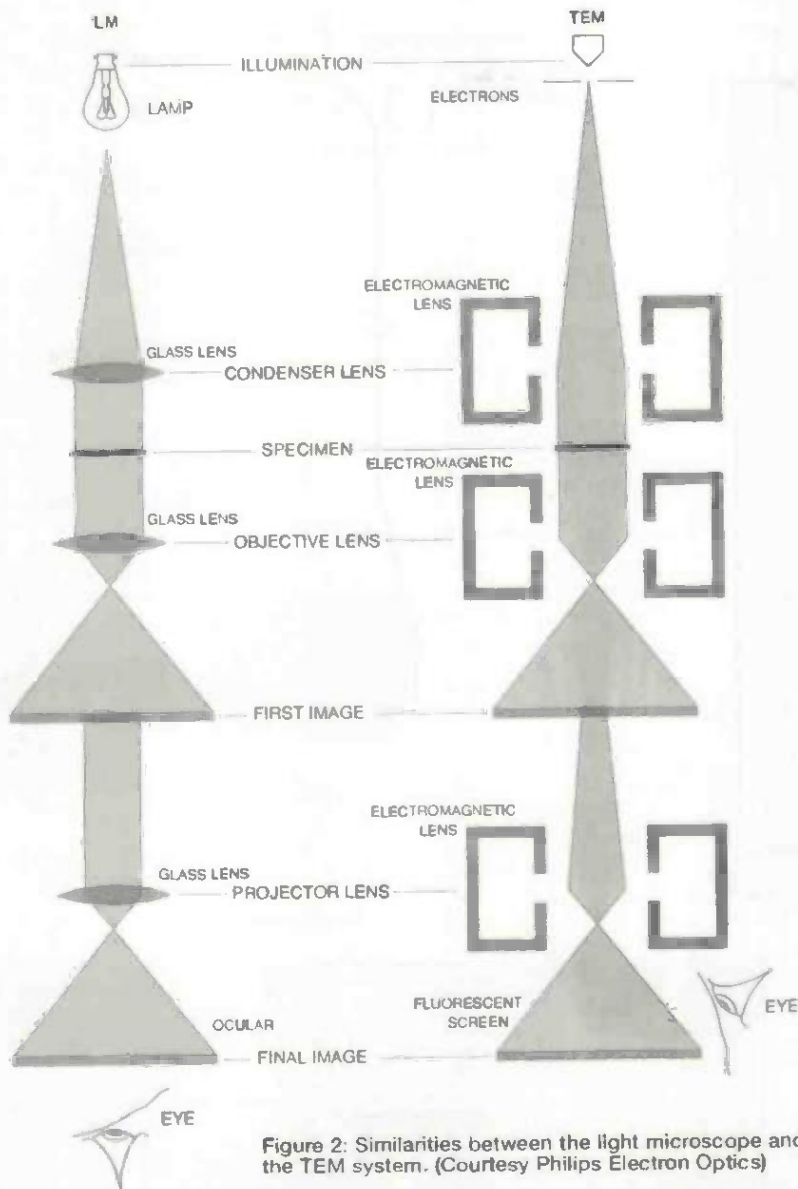

Figure 2: Similarities between the light microscope and the TEM system. (Courtesy Philips Electron Optics)
Figure 2 shows the similarities between the light microscope (LM) and the transmission electron microscope (TEM). The source of illumination in the TEM corresponds to the electron gun and the electromagnetic lenses to the glass lenses of the light microscope. The entire sample in the TEM is therefore irradiated by electrons.